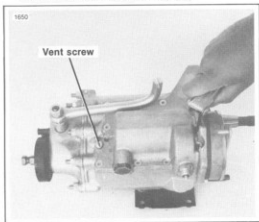

Figure 7-3. Shifter Cover — Drum Shifter
2. See Figure 7-3. Remove the shifter cover mounting screws, the slotted screw is a vent screw and must be reinstalled in the same location.
- See Figure 7-3. Install the cover assembly on the transmission with the original screws. Install the vent screw next to the dowel pin as shown. Install the two longer screws in the holes next to the shifter assembly. Tighten screws to 80-110 in-lbs torque.